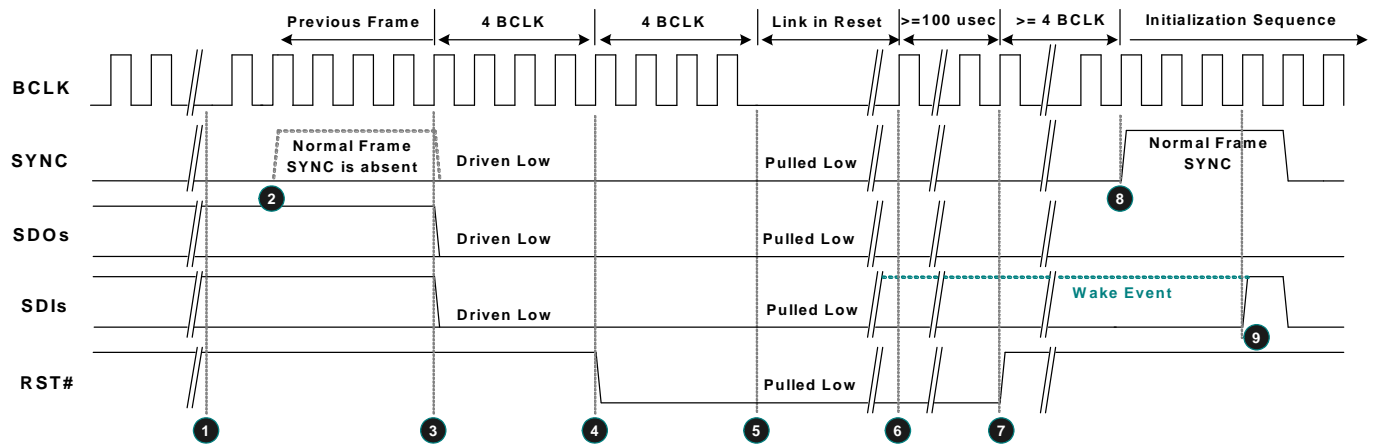

Figure 12. Link Reset Timing
3. Software initiates power management sequences. Figure 12, page 21, shows the 'Link Reset' timing including the 'Enter' sequence (❶~❸) and 'Exit' sequence (❹~❺)